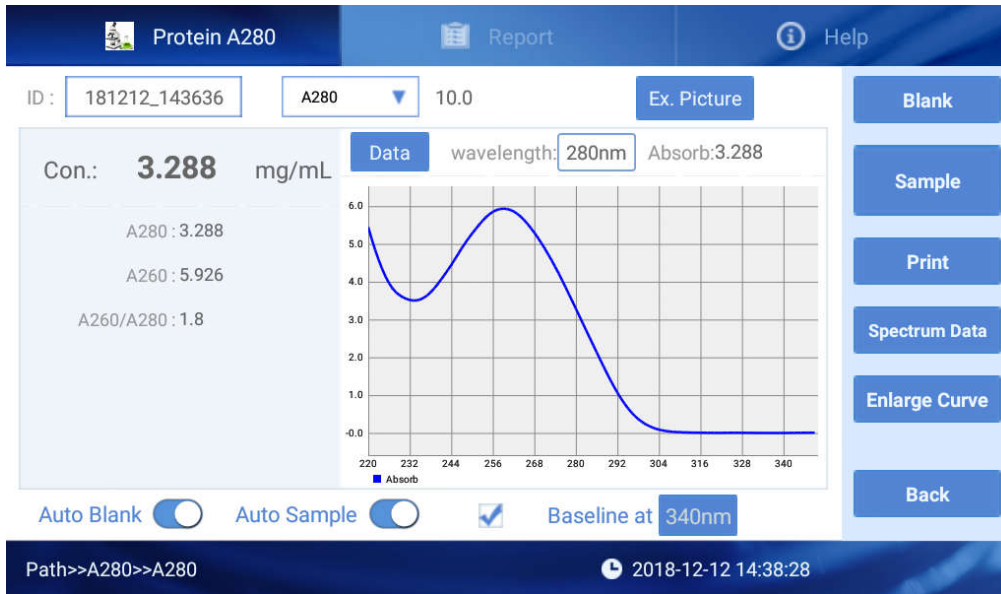

Fig 4.10 Result of Protein measurement
⑦ **Data**: Click it to switch to check the history data list and then click **Graph** to switch to check the curve.
- ① Set the batch NO. and Nucleic Acids type;
- ② Clean the upper and lower pedestals with dust proof paper, input the 2 μ L buffer solution to make blank;
- ③ Clean the buffer solution on the ower pedestals with dust proof paper;
- ④ Measure sample with volume of 2 μ L. Click “Measure” and then enter the interface as Fig 4.10;